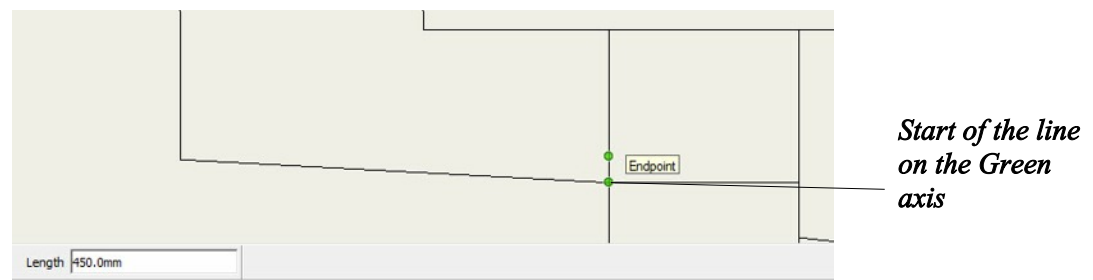

Figure 13. Drawing the 1st step
- Select the Endpoint of the line as shown in Figure 13 and draw a line on the green axis. Move the pointer away from your selected point and type in 450. This figure will appear in the Measurement window as a length of 450mm.